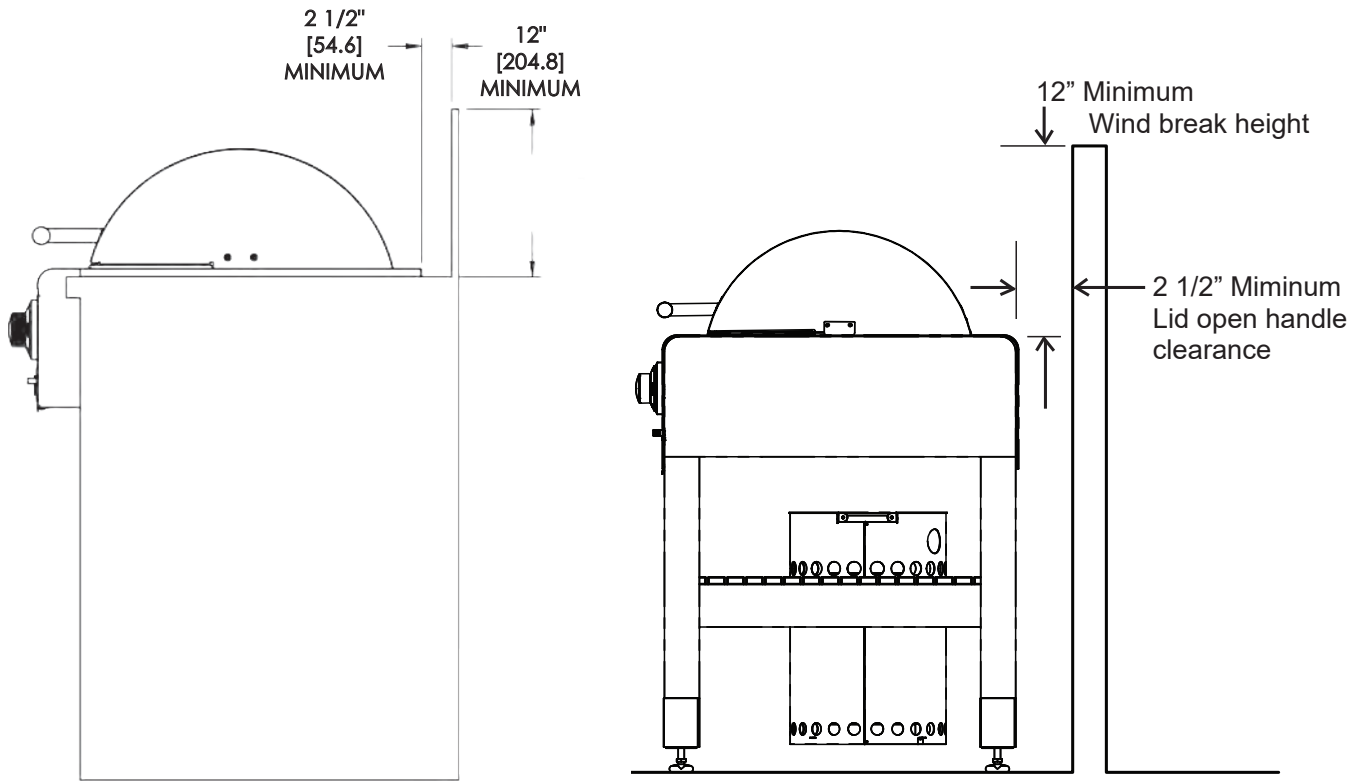

Fig. 2. Minimum 2-1/2" (63.5 mm) clearance recommended between appliance rear and windbreak.
- Be 12" (304.8 mm) tall minimum. **See fig. 2.**
- Have 2-1/2" (63.5 mm) clearance minimum from the unit's rear (required for built-in models, recommended for freestanding models). **See fig. 2.**